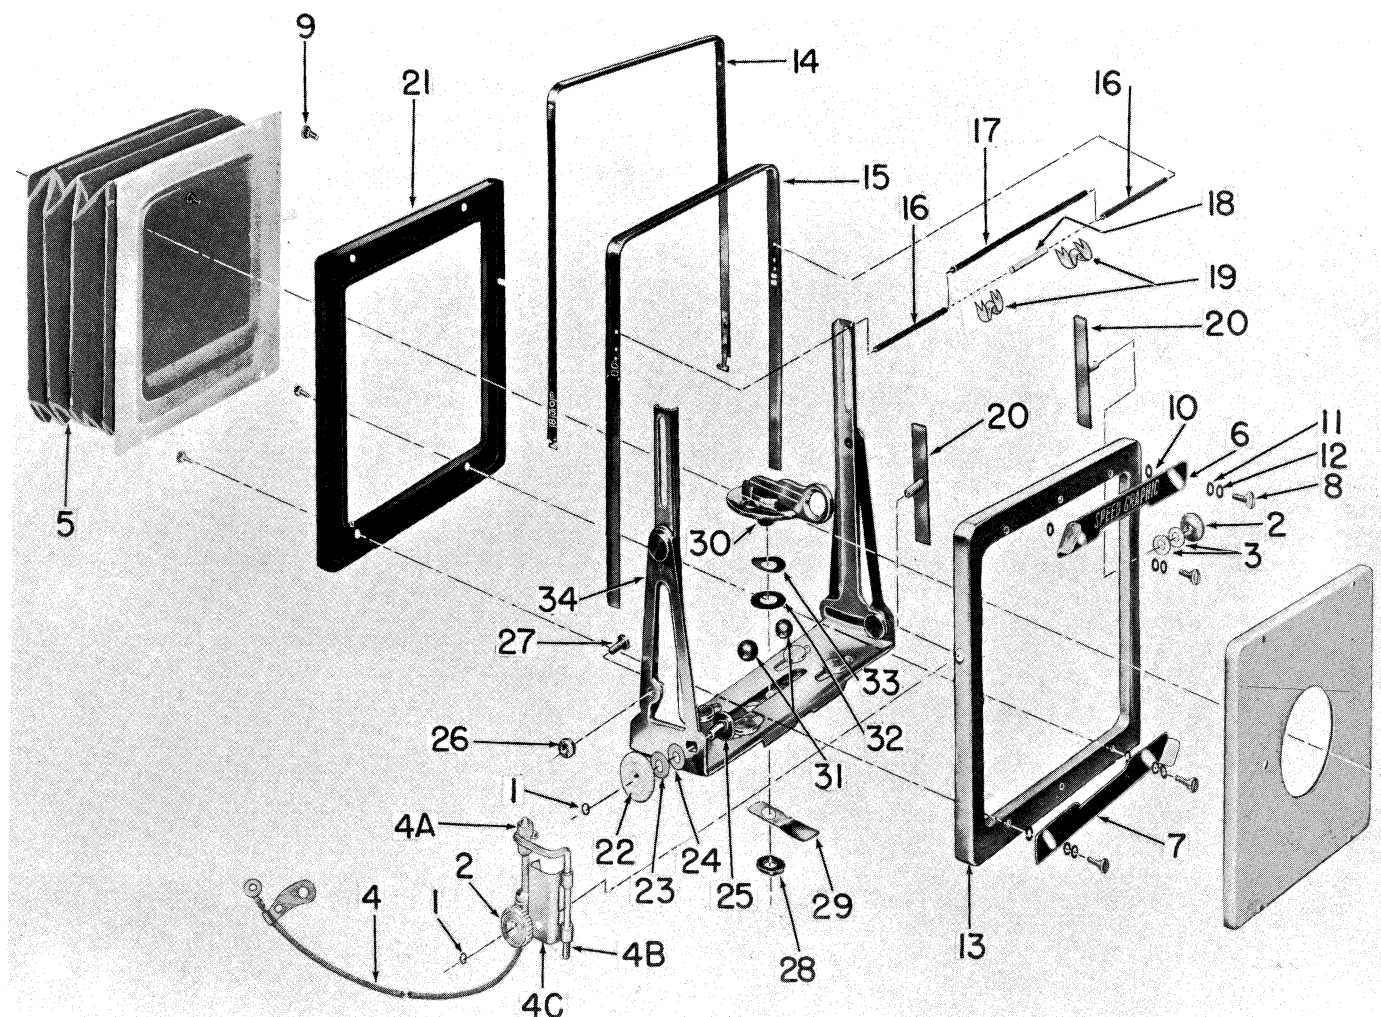

Figure 8. Front Standard, Exploded View
Note: If it is not necessary to remove the bellows assembly (5, figure 8), slide the front standard from the bed and proceed with paragraph C.
(f) Remove the bellows from the frame and support section by removing the lower slide lock (7, figure 8) that is secured by two slide lock screws (8). Swing the lower edge of the front bellows frame back and drop the upper edge free from the slide lock nut head.
2. Cable Release Assembly Removal. To replace the cable release assembly (4) proceed as follows:
(a) Remove the knob retaining ring (1, figure 8), used on early models, from each side of the frame clamp rising front knob (2) and unscrew the knob of each side of the frame. Later models have stud threads staked. Remove the upper and lower lensboard lock (6 and 7) that are attached by slide lockscrews(8), flat washers (10 and 11) and spring washers(12).
infinity stops and lock. Check the height with indicator at each corner and adjust the eccentrics (27, figure 8) or relocate the infinity stop (19 or 20, figure 1).
3. Inspect the finder (14, figure 8) and finder frame (15) for squareness. If the detent holes of the finder frame (15) have become worn by the finder plungers (16), replace the finder frame in order to hold in the desired parallax height.
1. Lateral Shift and Lock Lever. Assemble the lever assembly spring washer and the flat washer to the lever assembly (30, figure 8). Fit the two steel balls (31) into their position between the lever assembly (30) and the standard support assembly (34) and thread the lever assembly stud through the standard support assembly. Lay the shift locking spring (29) in position and assemble the special hexagon nut (28).
2. Adjusting Lock Lever. Check the front standard to determine how tightly it will lock by placing on the sliding yoke of the bed and setting the lock lever (30). It should clamp tightly enough to prevent slippage when the bellows and lens are assembled. To tighten the lock lever, loosen the lock nut (28) on the bottom side and turn the screw in a counter clockwise direction; to loosen the lock, turn the screw in a clockwise direction and then tighten the nut.
3. Lensboard Frame and Sight Reassembly. Lubricate the flat surface of each front frame clamp plate assembly (20) with grease, AN-G-6. Lubricate the sliding areas of the finder (14) and the finder frame (15) with grease, AN-G-6.
(d) Thread the manual trip bracket (4, figure 8) through the bellows hangers and mount the bracket over the right front frame clamp plate stud. Assemble the frame clamp knob (2) andpeen the first thread of the stud at one point.
(a) The manual trip clamp (16, figure 1) is clamped to the manual trip rod (4B, figure 8) and the relationship of the manual trip clamp to the shutter release lever is adjusted by means of the twin cable release nuts (4A).